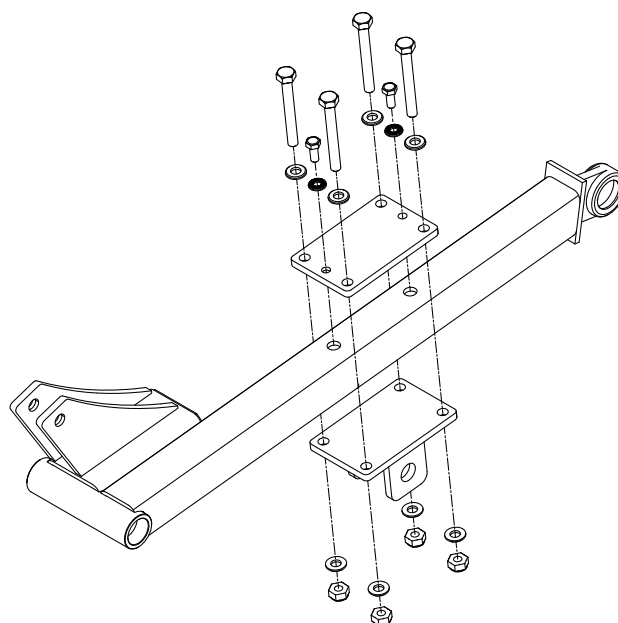

Fig. 2
3. Attach the turnbuckle mounting bracket assembly to the left hand lift arm (Fig. 2).